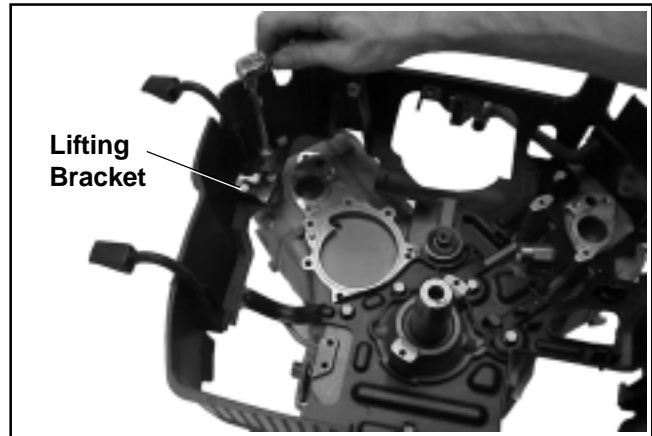

**Figure 9-53. Removing Intake Manifold and Gaskets.**
2. Separate the intake manifold from the cylinder heads and remove it, by shifting it toward the crankshaft, until the carburetor studs clear the lower blower housing. Remove the intake manifold gaskets. See Figure 9-53.